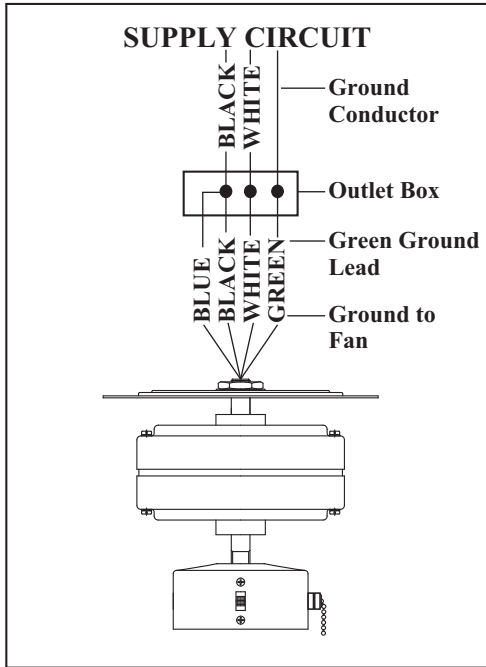

Figure 6
1. Connect the ground conductor of the 120V supply (this may be a bare wire or a wire with green colored insulation) to the green ground lead(s) of the fan. (Figure 6)
2. Connect the fan motor white wire to the supply white (neutral) wire using a wire nut. (Figure 6)
3. Connect the fan motor black wire to the supply black (hot) wire using a wire nut. (Figure 6)